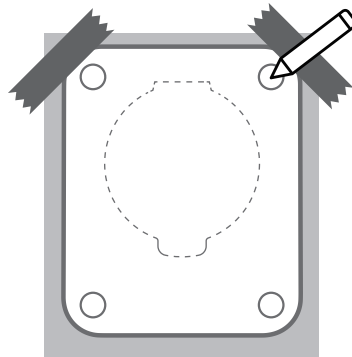

Fig. 5.8.1
2. Place the installation template on the wall and mark the mounting hole. (See Fig. 5.8.1)